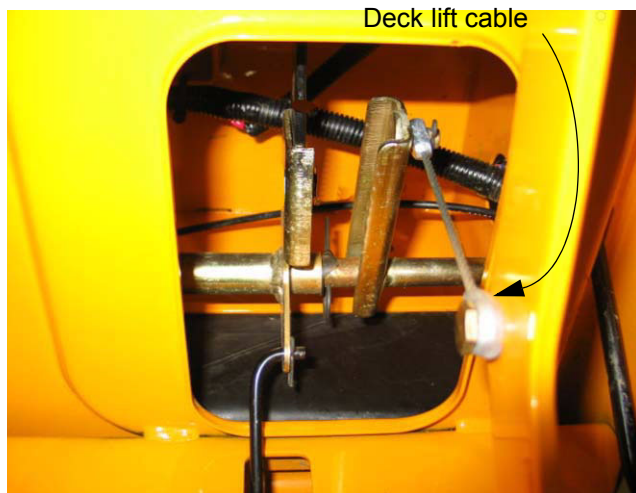

Figure 14.9
- 14.9. Remove the hairpins securing the deck lift cables the deck lift shaft. See Figure 14.9.